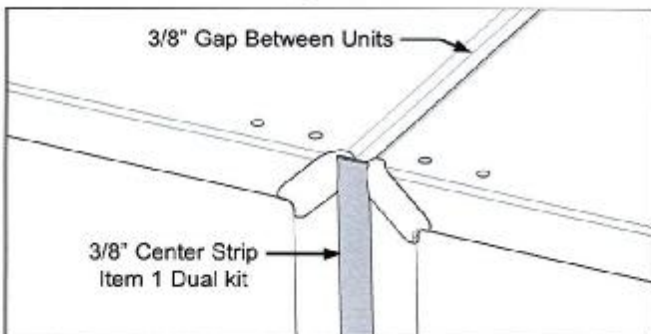

Figure 6.
- b. Install center strip to insure the proper 3/8" gap is maintained between units. (See Figure 6).